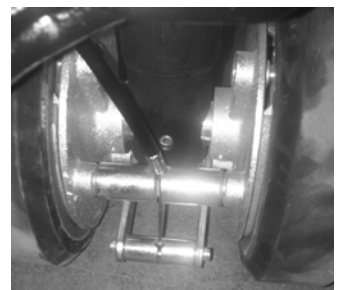

Fig.12: Progressive drive and parking brake
- Turn the pump 90 degree to right side, then pass through the brake cable behind the thrust plate.(Fig.12)